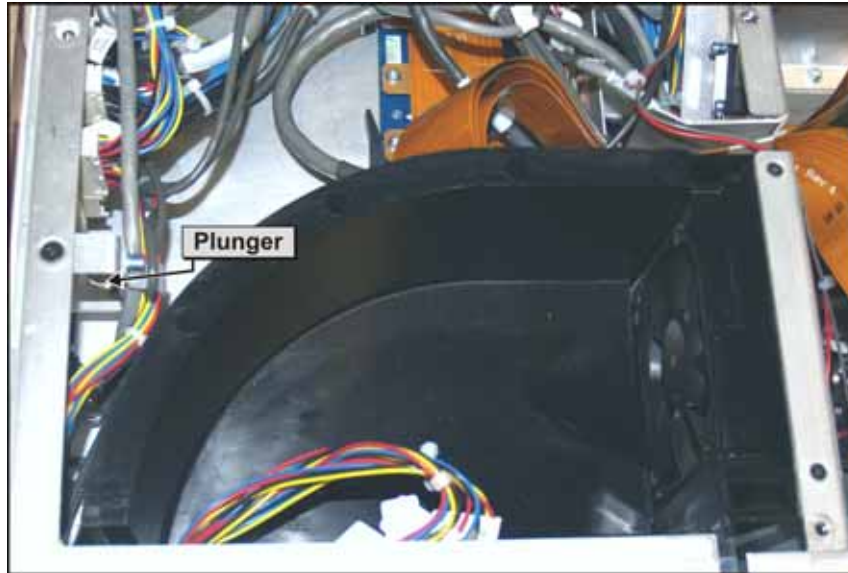

Figure 5-54 Plunger
7. Pull up the plunger located at the top of the cardcage and slide the cardcage out along the guides. (Figure 5-54)